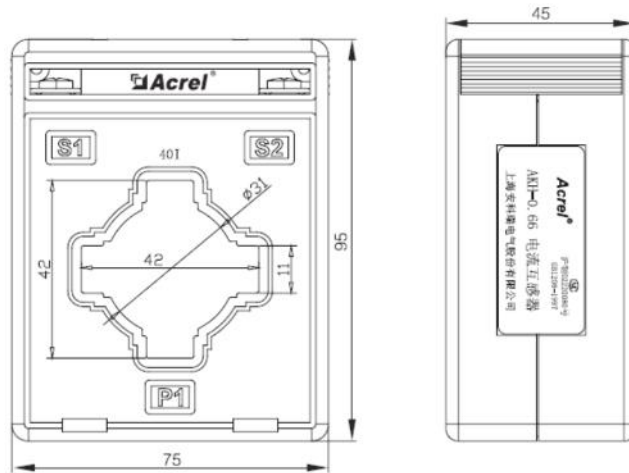

Fig. 6 External dimensions of current transformer 250A
5.4.2 The external dimensions of the 250A current transformer are shown in FIG. 6 (unit: mm) : The current specification of the protector is the current transformer matched at 250A. There is no secondary connection wire. One protector is equipped with three transformers.